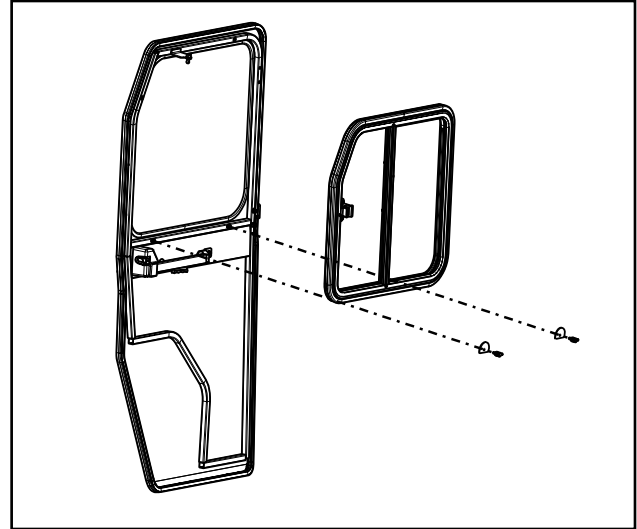

Fig. 17.1 Removable sliding windows
**17.1** The doors are packaged with the removable sliding windows installed. Per figure 17.1, remove the sliding windows to ease assembly. To do so, loosen the thumb screws at the bottom of the sliding window.